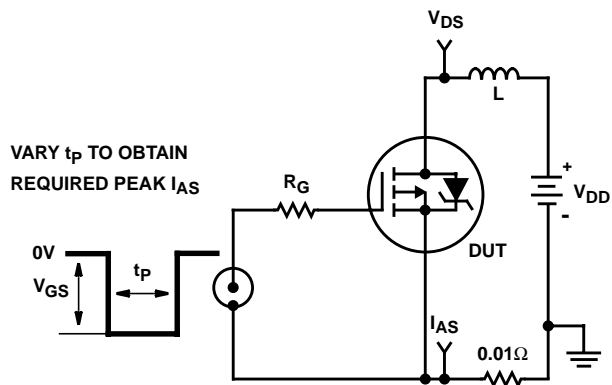

FIGURE 14. UNCLAMPED ENERGY TEST CIRCUIT
- $V_{DD} = 25\text{V}$, starting $T_J = 25^\circ\text{C}$, $L = 555\text{mH}$, $R_G = 25\Omega$, Peak $I_{AS} = 1.0\text{A}$ (Figures 14, 15).